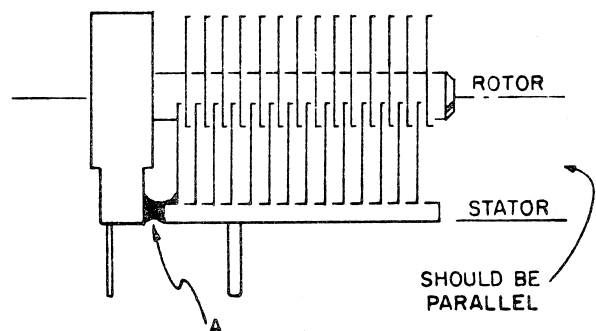

Figure 1. Air Capacitor.
The mounting pins on the air capacitors do not correspond to the holes in the printed circuit boards. If the air capacitor is forced into the printed circuit board, a stress will form at point A (See Figure 1). The air capacitor will attempt to relieve the stress by moving the rotor and stator out of parallel alignment (See Figure 1). This movement, to relieve the stress, can take up to several months. The result is that the rotor and stator plates short together. Air capacitors that have shorted must be replaced. The solder joint at point A (See Figure 1) has weakened and air capacitors repaired by bending the plates will fail again.
4. Solder the air capacitor leads. Use only sufficient heat to melt the solder. Excessive heat may weaken the solder joint at point A (See Figure 1).